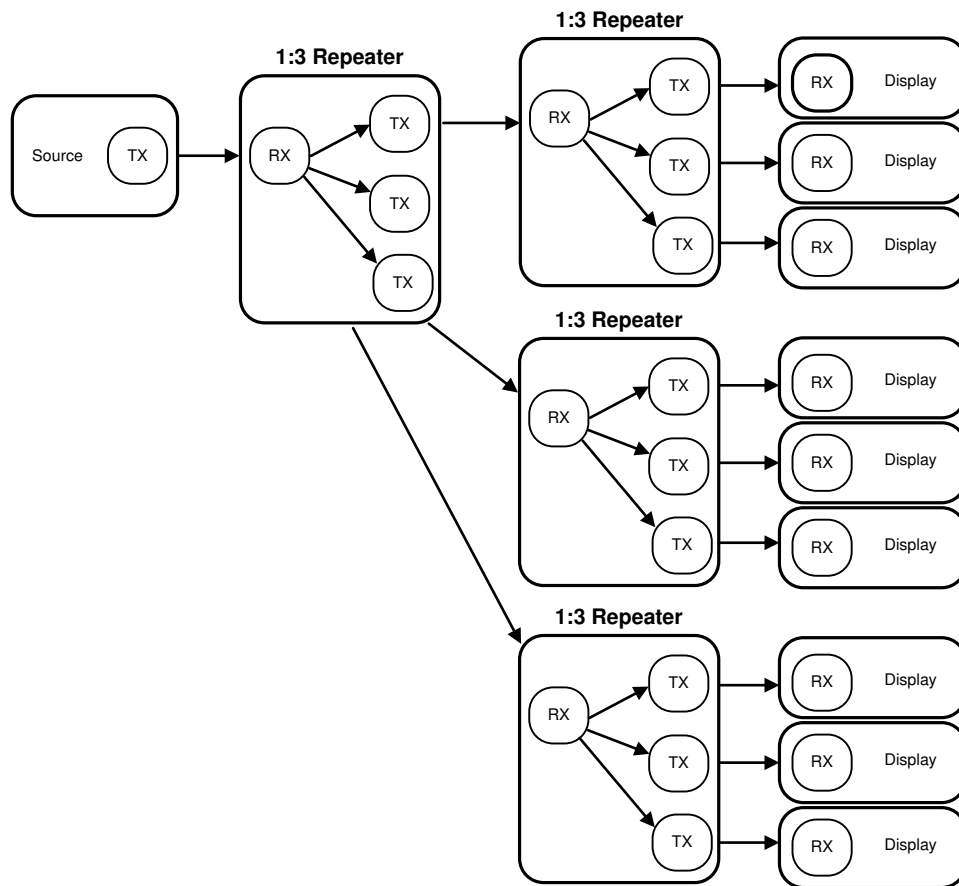

FIG 7-9. Maximum Repeater Application
In the repeater application, this document refers to the DS90UB947-Q1 serializer or as the transmitter (TX), and refers to the DS90UB948-Q1 as the Receiver (RX). Figure 7-9 shows the maximum configuration supported for repeater implementations. Two levels of repeaters are supported with a maximum of three transmitters per receiver.